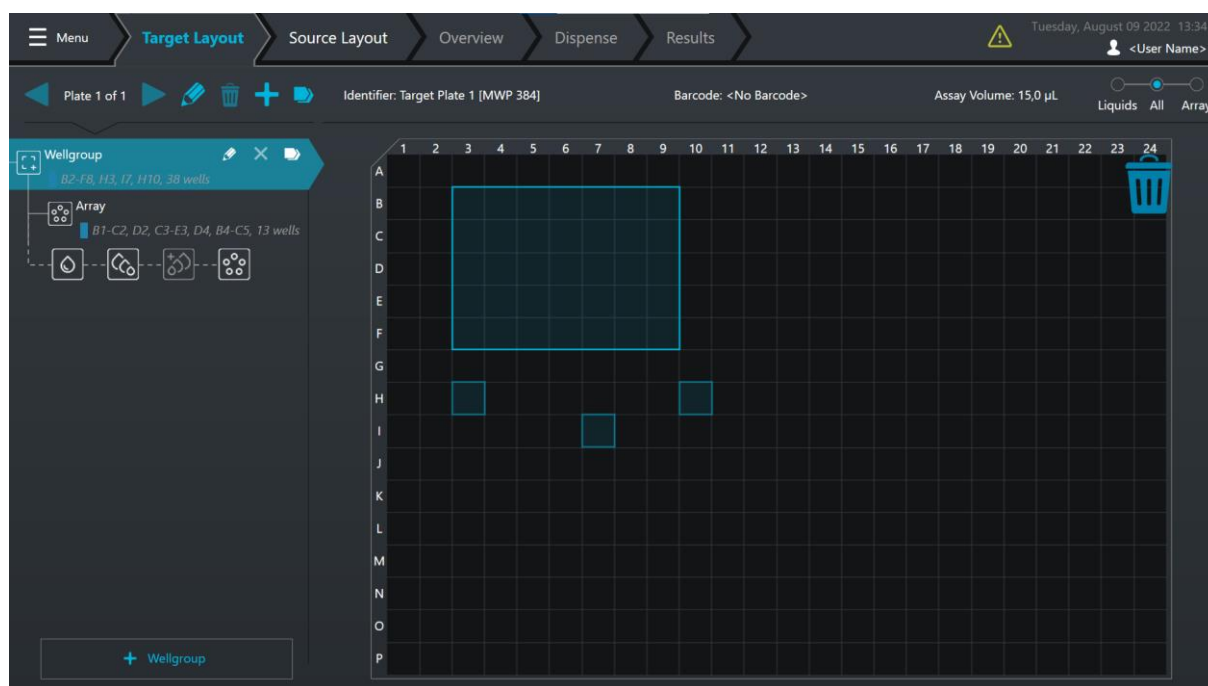

Figure 12: Assigning target wells.
**Remove** selected wells by dragging them to the **bin** or pressing the “**Del**” key on the keyboard (Figure 12).